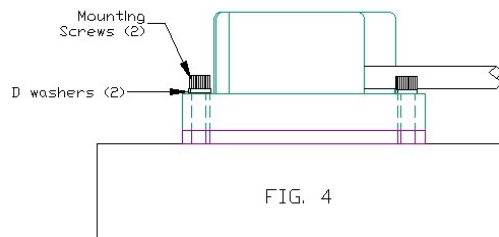

FIG. 4
**Step 6.** Tighten the machine screws until there is a small amount of rotational play left in the encoder (See Fig. 4). Time the encoder as necessary, and continue to fasten down the screws. Tighten in an alternating fashion to maintain constant pressure against the internal and lower O-Rings (a maximum of 2 to 2.5 inch-pounds is recommended). This is done in order to reduce the possibility of binding an O-ring.